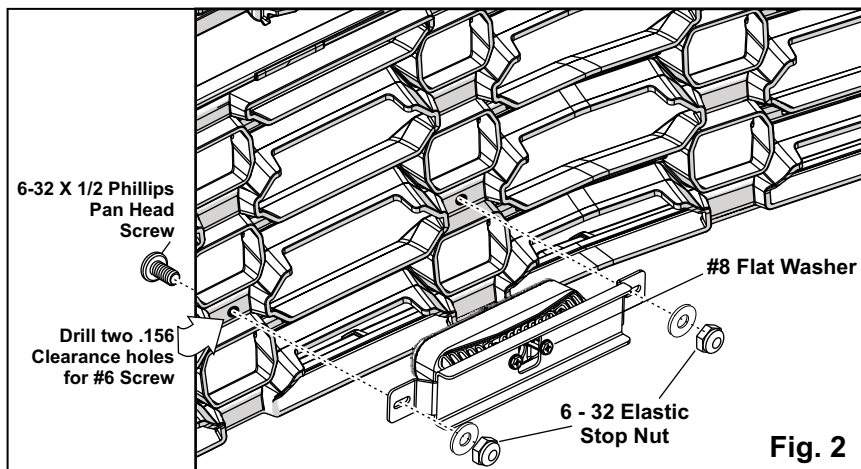

Fig. 2
3. Next, drill a clearance hole for the #6-32 1/2 screw in the center of the grille webbing (see figure 2 or 4).